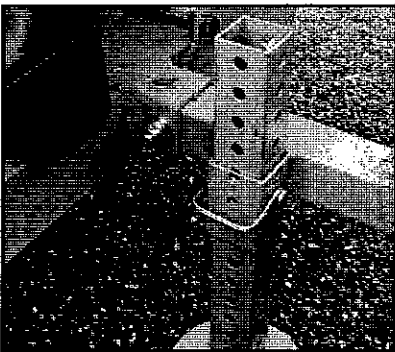

FIG. 8 - TONGUE INSTALLED AND JACK STAND LOCKED IN PLACE
STEP 2: Mount tongue into rectangular tubing section on the front of the trailer. Secure the tongue with the 1/2 x 3 1/2 inch bolt, 1/2 inch Nylok® nut and a 1/2 inch SAE washers on each side. (Refer to Figure 8.) Pull the wiring harness through the tongue mount and tubing, before assembling.
STEP 5: The jackstand pin is part of the trailer's jack stand. Align holes in the jack stand tubing at the desired elevation and lock in place with the jackstand pin. (Refer to Figure 8.)